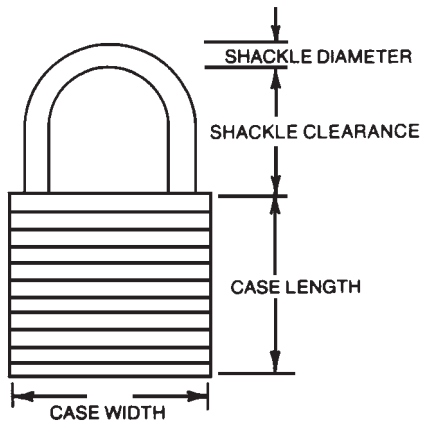

Figure 12.1 Padlock nomenclature.
- Are width, case length, and shackle clearance crucial (Fig. 12.1)?